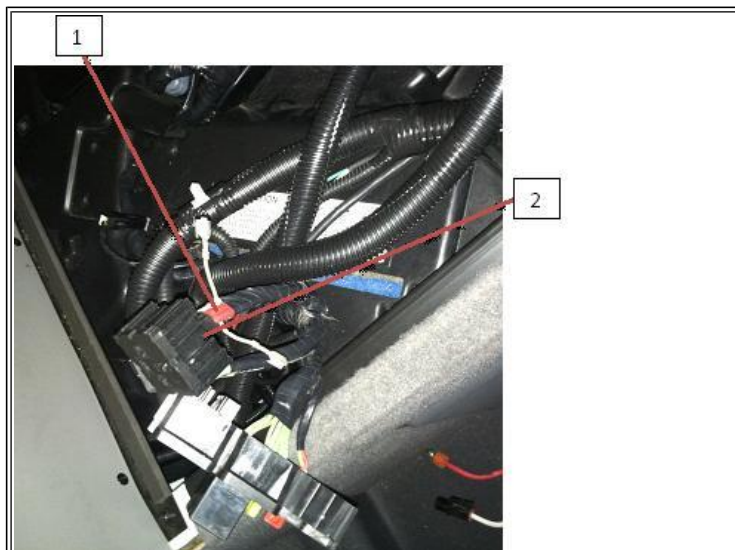

Figure 7: Control Center Assembly Harness 4-Pin Connector.
19. Disconnect control center assembly harness 4-pin connector (Figure 7, Item 2) from compressor controller harness 4-pin connector (Figure 7, Item 1).
20. Cut and discard control center assembly harness 4-pin connector (Figure 7, Item 2) at breakaway.